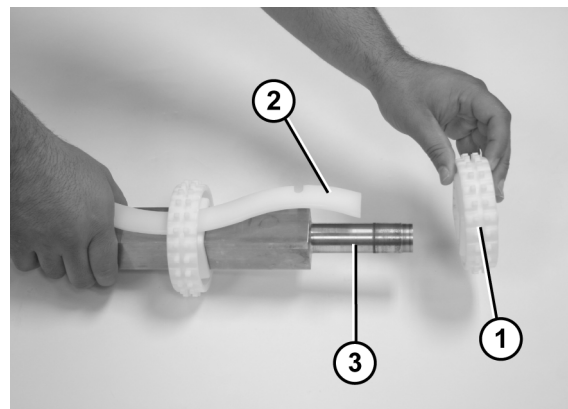

Figure 61
- Slide the sprockets (**Figure 61, item 1**) and the sprocket alignment bar (**Figure 61, item 2**) off the drive spindle (**Figure 61, item 3**).